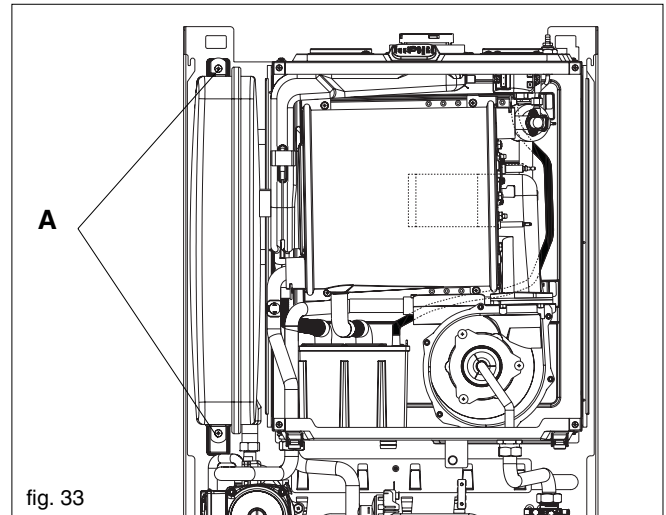

fig. 33
6.18.1 EXPANSION VESSEL REMOVAL (with sufficient clearance above, fig. 33)